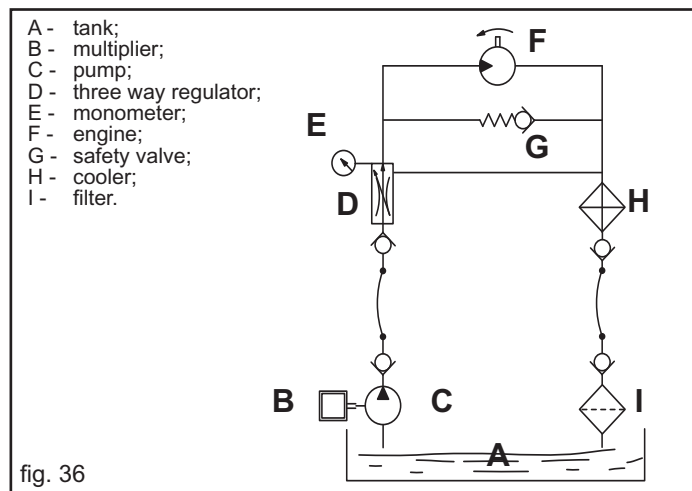

fig. 36
- independent system:** a system with a self-contained oleodynamic system (Fig. 36).
Oil supply: follow the data in the table in Fig. 36.